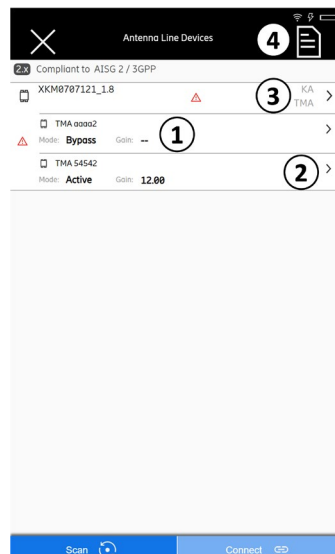

Fig. 72: Devices: Configuring the TMA
1. Tap ③ in Fig. 72 to show the TMA properties.
1. Tap ② in Fig. 72 to open the subunit properties.